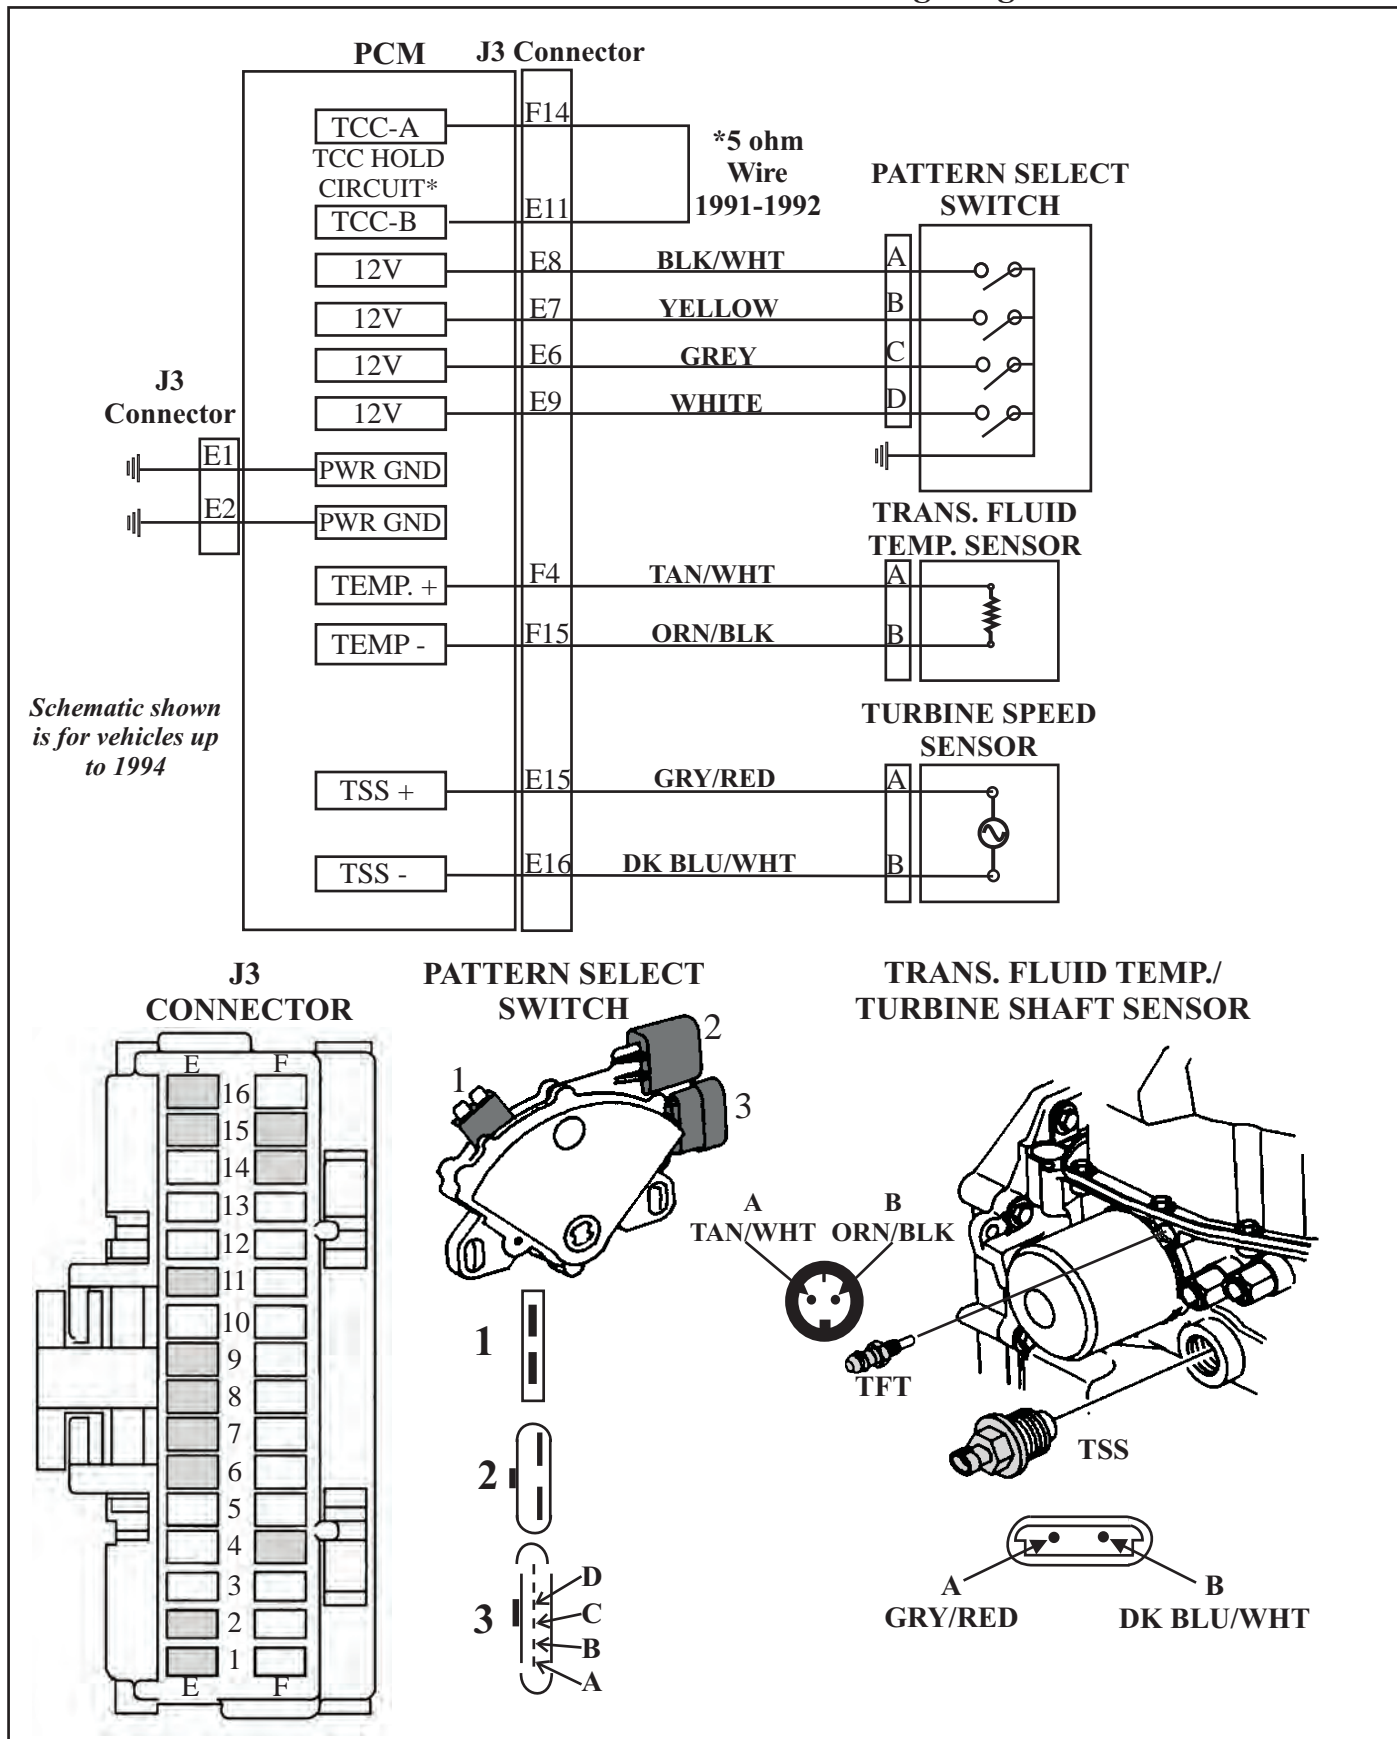

Figure 27
The TCC Hold Circuit shown in Figure 27 (\*5 ohm wire circuit) is a 1991 and 1992 model year feature only. The amount of electrical current required to **energize** an actuator is greater than the amount required to **hold** an actuator in position. The Hold Mode is a feature built into the PCM that reduces current draw of the TCC actuator when TCC is being held on. After TCC is applied a driver built into the PCM is opened and an actuator ground path is provided inside the PCM through the 5 ohm resistance wire.
To adjust the Pattern Select Switch, put the selector lever in the D4 position. Do not start the vehicle. Place an ohm meter onto the Pattern Select Switch as shown in Figure 29 (The terminal contacts to be used is in connector 1 shown in Figure 27 on page 22). Rotate the switch until the ohm meter reads continuity. Once adjusted, secure the Pattern Select Switch.
The Turbine Speed Sensor (TSS) is a permanent magnet (PM) generator mounted near the pressure filter on the transaxle case (See Figure 27). The PM generator produces a pulsing voltage (AC) whenever turbine shaft speed is above 250 rpm. These pulses occur eight times per each turbine shaft revolution and is converted to an RPM signal inside the PCM. These pulses can be viewed with a DVOM set to Hz. If a DVOM is set on AC volts, voltage would increase with speed. If this sensor is checked with an ohm setting, the resistance value should be between 800 to 1600 ohms. The Turbine RPM signal can also be checked and viewed through a hand held scanner.